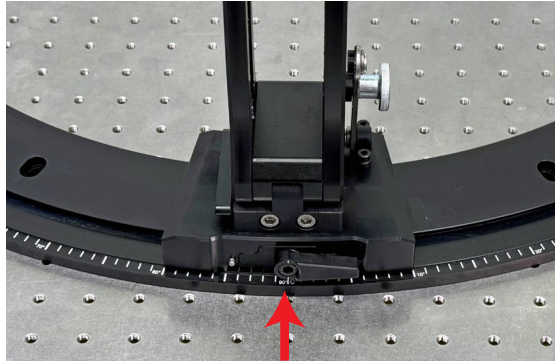

Figure 16. ARM locking lever (locked in the picture).
Carefully unpack the ARM modules. Confirm that the ARM locking lever is pointing all the way left, which is the unlocked position (Figure 16). Slide each ARM onto the desired RNG segment and move it back-forth over the full RNG segment length to spread the grease evenly. Wipe off excess grease.
1. Insert provided dowel pins to the micromanipulator x-axis (Figure 16, left).
2. uMp-RHL has two alternative positions in the x-axis. Place the uMp-RHL to front position and secure in place using the provided screw (Figure 16, center). Confirm visually or by measuring that the uMp-RHL and x-axis are accurately aligned.